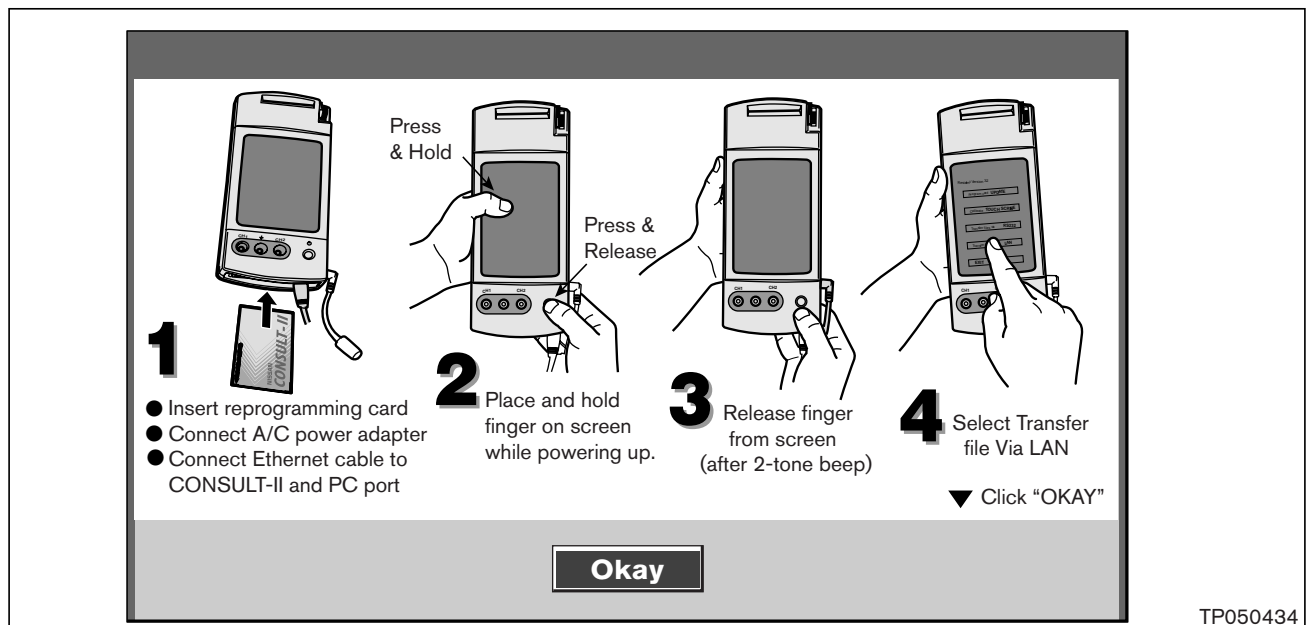

Figure 8
- The **8 MB (orange)** Reprogramming Card is inserted into CONSULT-II (see Figure 8).
- The A/C Power Adapter is securely connected to CONSULT-II (see Figure 8).
- The Ethernet Cable is securely connected to CONSULT-II and the PC port (see Figure 8).
b. Turn CONSULT-II “ON” (see Figure 8).
c. Select “Transfer Files via LAN” (see Figure 8).
NOTE: If you accidentally choose a menu option other than "Transfer Files via LAN"; turn CONSULT-II “OFF”, and then back “ON” as shown in Figure 8.
a. On the ASIST screen, click on "OKAY" (see Figure 8, previous page).